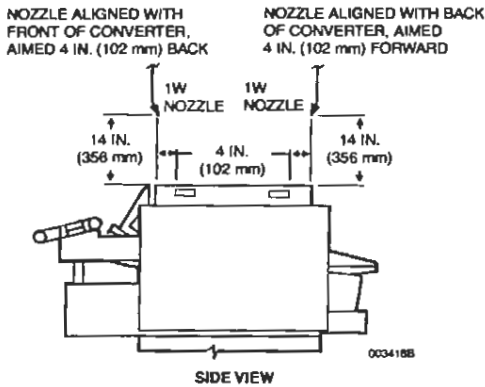

FIGURE 89
- **Nozzle Quantity/Type:** (2) Two 1W nozzles, Part No. 419347.
- The rear nozzle tip is a mirror image of the front. The rear nozzle is located 14 in. vertically above the appliance, aligned with the "rear" face and centerline of the catalytic converter. The aim point is 4 in. behind the "rear" edge of the converter on the centerline. See Figure 89.